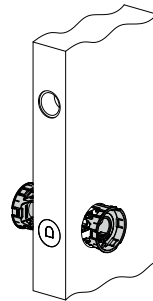

Fig. 2
3. Apply the two plastic supports of the encased plates in their housing $\varnothing 48$ (Fig. 2). The supports must be inserted opposite and rotated 180° between them, in this way they engage each other, until their stopping on both sides of the door and adapting automatically to the thickness of the panel.